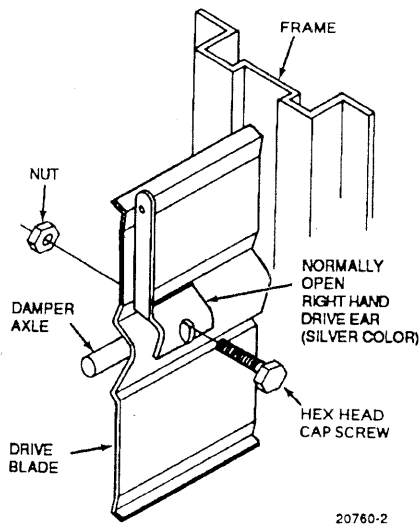

Fig. 3. Normally Open Drive Ear Mounting.
- Right-Hand Drive Ear Hardware Assembly (Fig. 3): 14004313-002 (for internal normally open mounting)